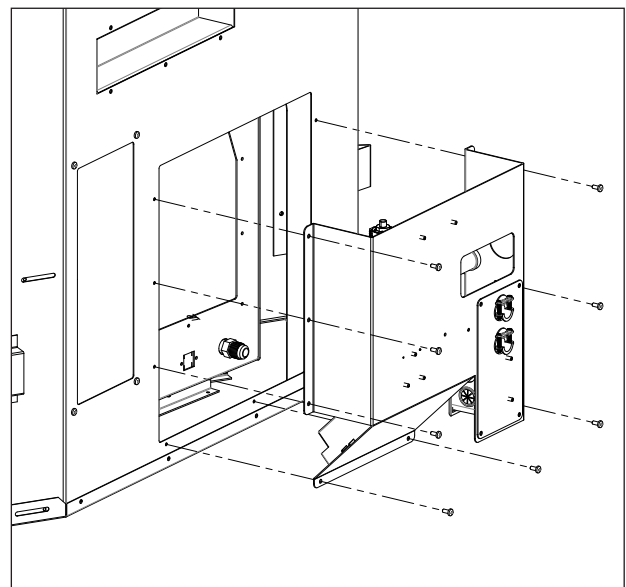

Figure 14: Component Backpack Removal
The component backpack houses the valve, IFC and fuses for the fireplace. It is located on the back right side of the unit. To remove the backpack and access the components, remove the eight (8) T-20 screws around the perimeter (see Figure 14).